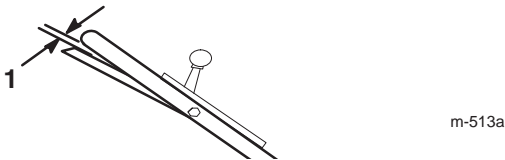

Figure 25
**Note:** The adjustment is correct when the rear wheels stop turning and the control bar is about one inch (2.5 cm) from the handle (Fig. 25).